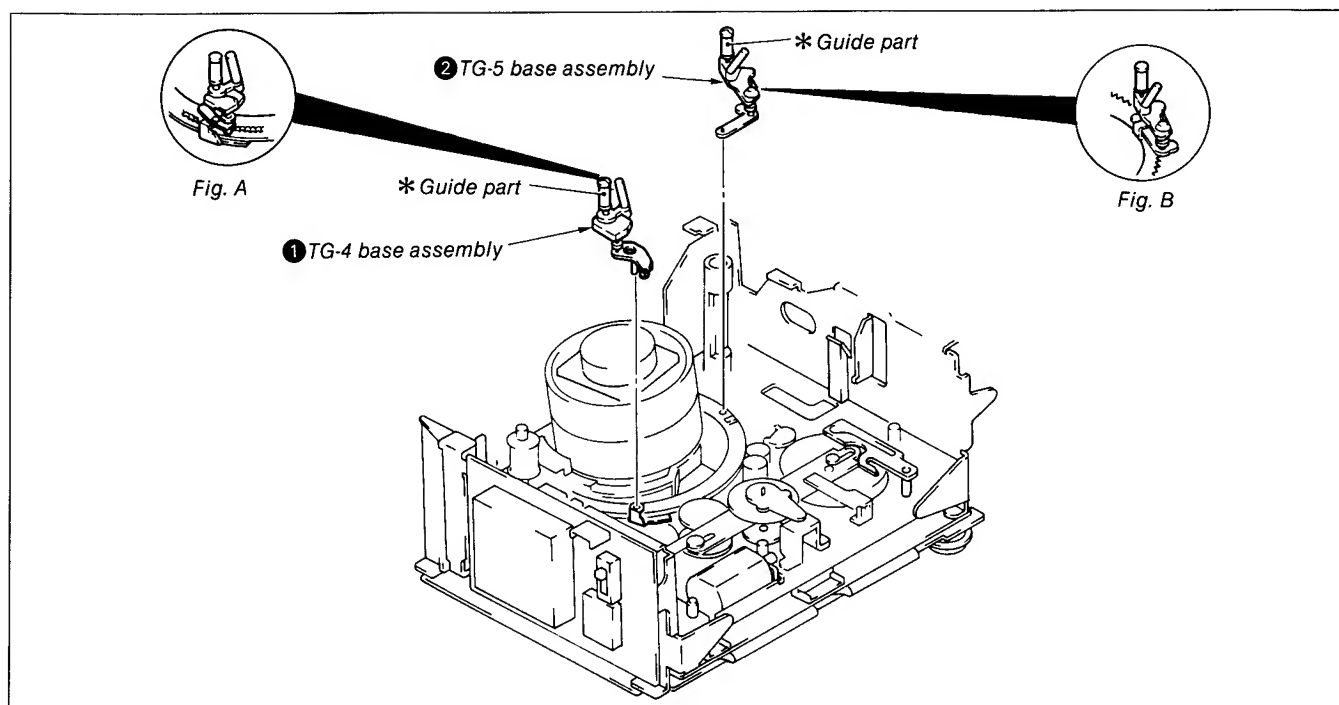

Fig. 8-27.
- 7) Remove TG-5 base assembly ② from pin ⑥. (See Fig. 8-27)